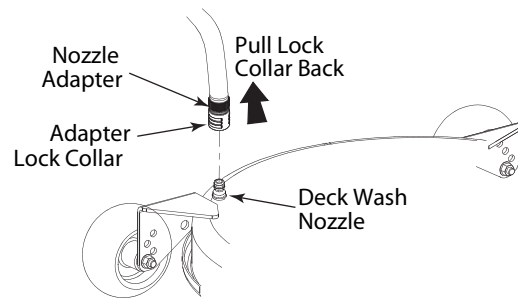

Figure 6-3
- Pull back the lock collar of the nozzle adapter and push the adapter onto one of the deck wash nozzles at either end of the mower deck. Release the lock collar to lock the adapter on the nozzle. See Figure 6-3.